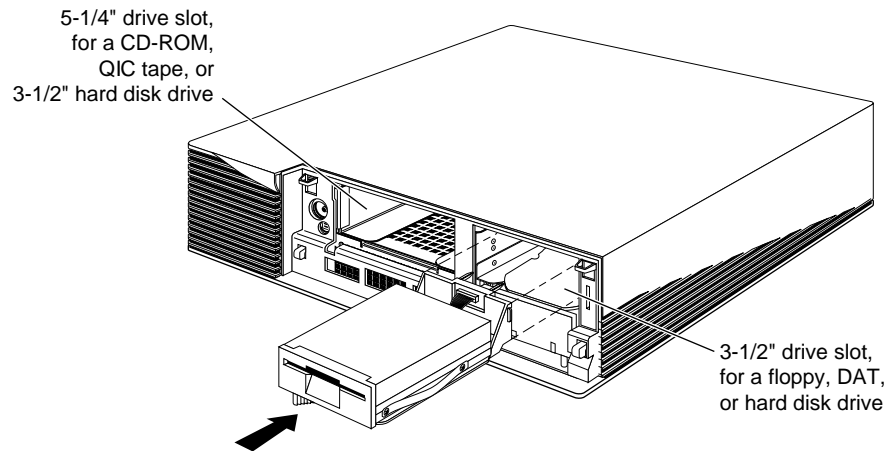

Figure 6-4 Installing an Internal Drive
2. Install the drive, as shown in Figure 6-4.